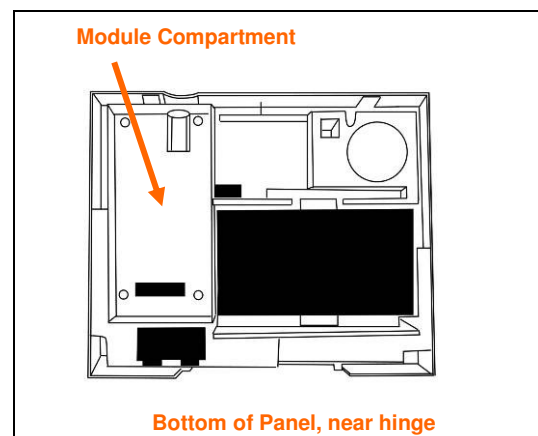

Figure 2
2. The GSM module compartment can be found behind the front panel that swings down, to the left of the battery compartment, as seen in *Figure 2*.